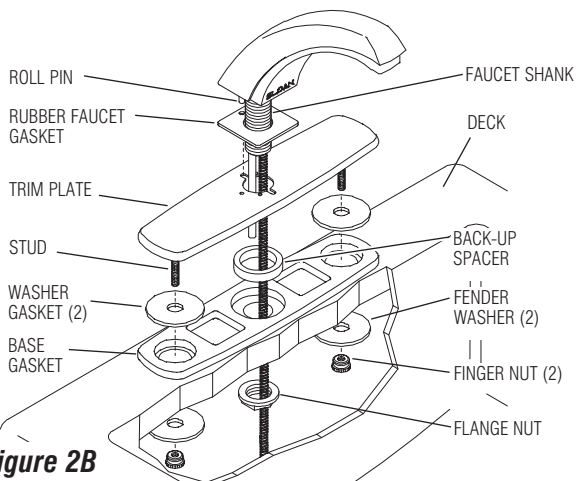

Figure 2B
Step 1B — ETF-510-A Single Hole 8" Trim Plate (Figure 2B)